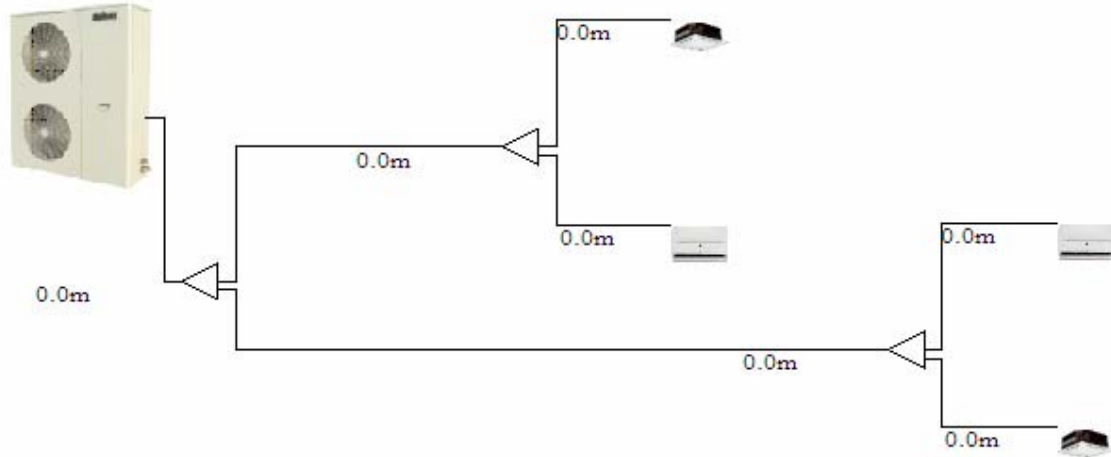

Figure 3.18 Insert Indoors
- The roof factor only is applicable when the unit is installed under the roof. The cooling capacity reference will multiple the "roof factor" when the unit is selected under top layer. For more information, please refer to Figure 3.18 in the same chapter for more information.